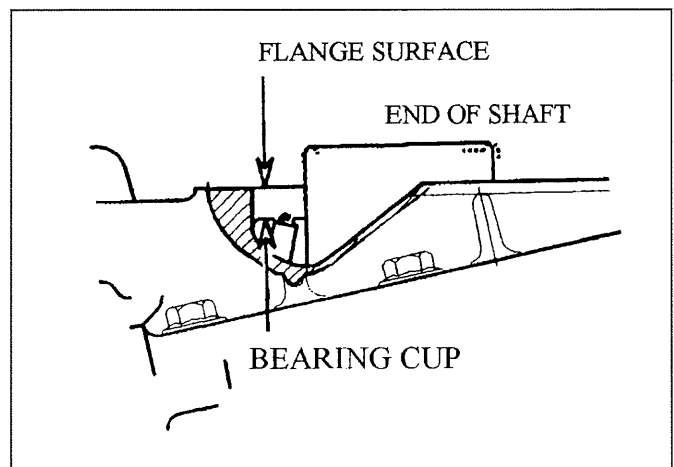
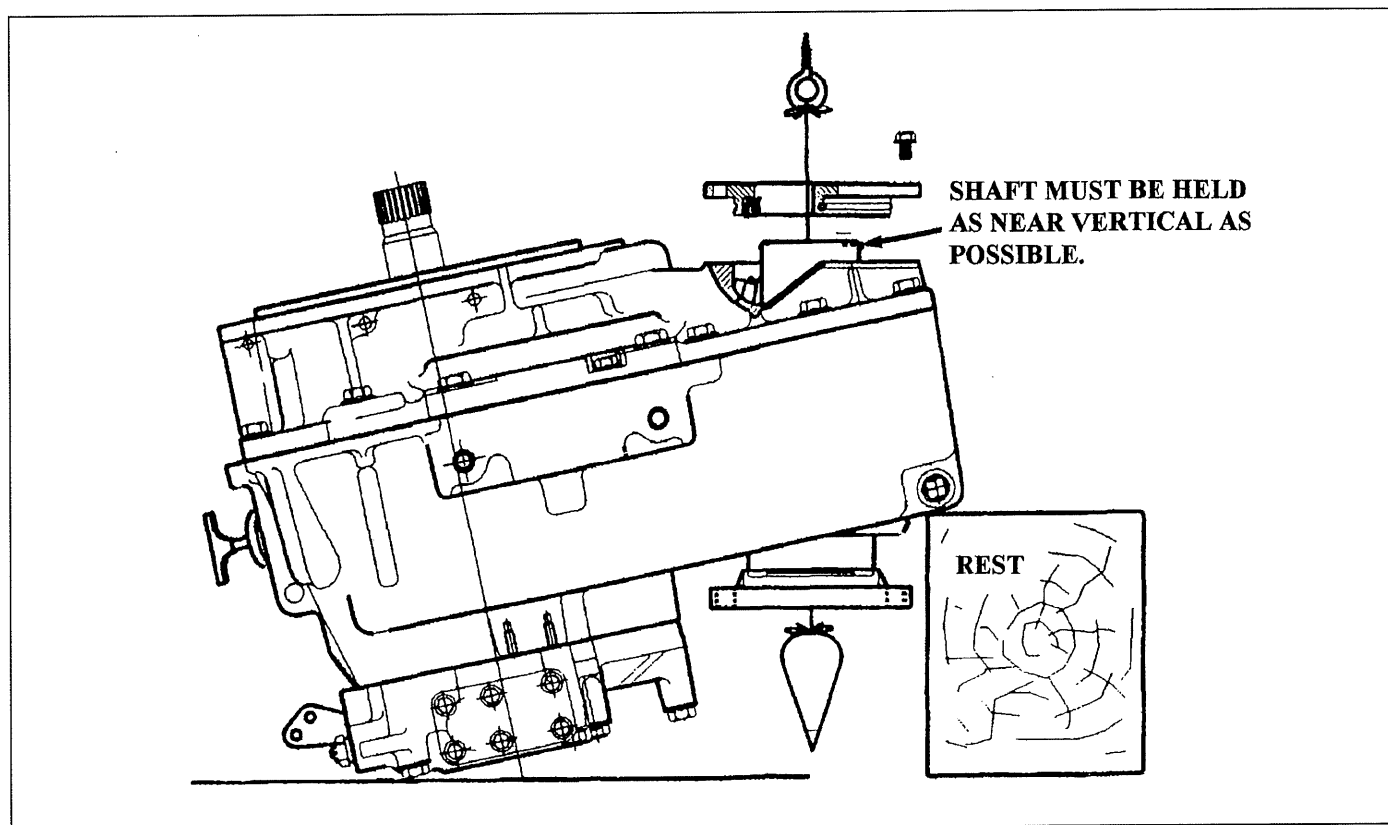

Figure 1-8: Measure to cup
Figure 1-9: Case positioning for output bearing preload adjustment
1. Arrange the transmission assembly in a position that assures the output shaft is in a vertical position (figure 1-9).
2. Install seal (120) and O-ring (121) in bearing retainer (119).
3. Install the output bearing cup (151) insuring the bearing cup is properly seated.
4. Measure the distance from the bearing cup (151) to the cover surface and record (figure 1-8).